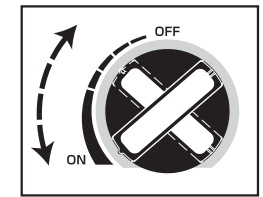

Fig. 8
- Turn the ignition knob from High to Low to adjust the flame from strong to small (Fig. 8).